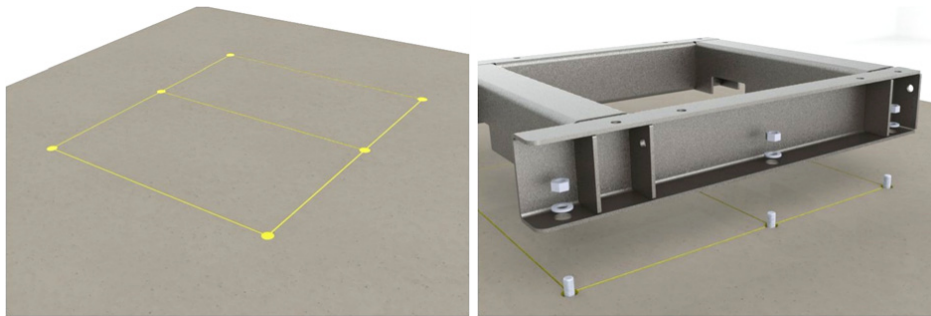

Figure 4 Marking the Anchor Locations
1. Where floor anchoring is required, place the base assembly into position and mark the anchor locations using the base as a template (see Figure 4).